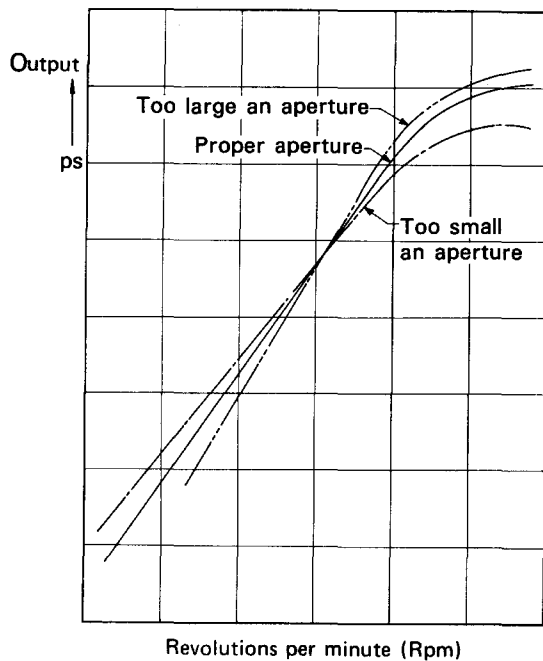
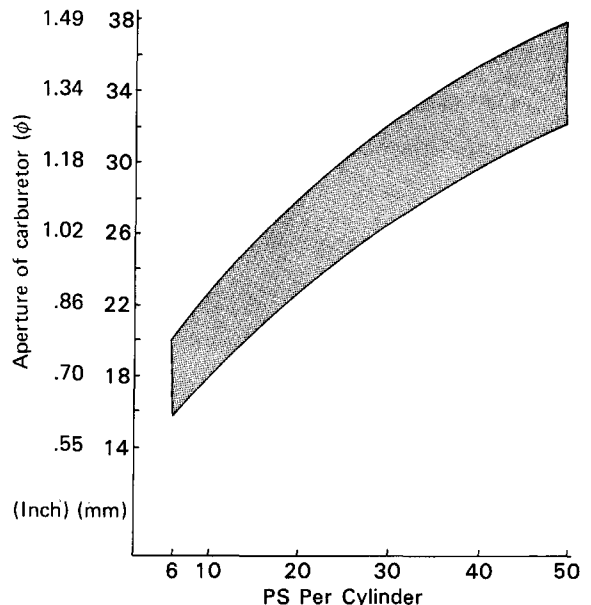

Fig. 10
Fig. 11
One of the prerequisites for improving the output is to use a carburetor with as large an aperture as possible. However, a large aperture alone does not improve the output necessarily. As shown in Fig. 10, it is true that a large aperture improves the power output in the high speed range. In the slow speed range, on the other hand, the output rather drops. The aperture of a carburetor is determined by various factors. These factors include (1) whether the vehicle is intended for racing, (2) the design of the engine, (3) driving technique of the driver, (4) the driver's preference, etc. In addition, the maximum output, the maximum torque and the minimum number of revolutions for stable engine operation must also be taken into account. Fig. 11 shows the values which we have obtained through our experience over the years. Since the engine comes in a wide variety of types, the values given in Fig.11 should be taken only as reference values.